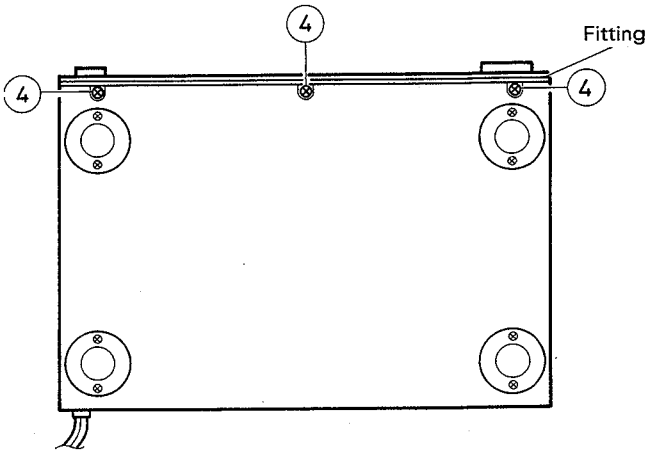

Fig. 2-3
1. Remove the screw ③ retaining the center of the front plate.
2. Remove the three screws ④ retaining the bottom plate fitting on the bottom (see Figure 2-3).
3. Press the two points (A) on the mold section to remove the catches on the inner side of the front cover and then remove the front cover towards you.